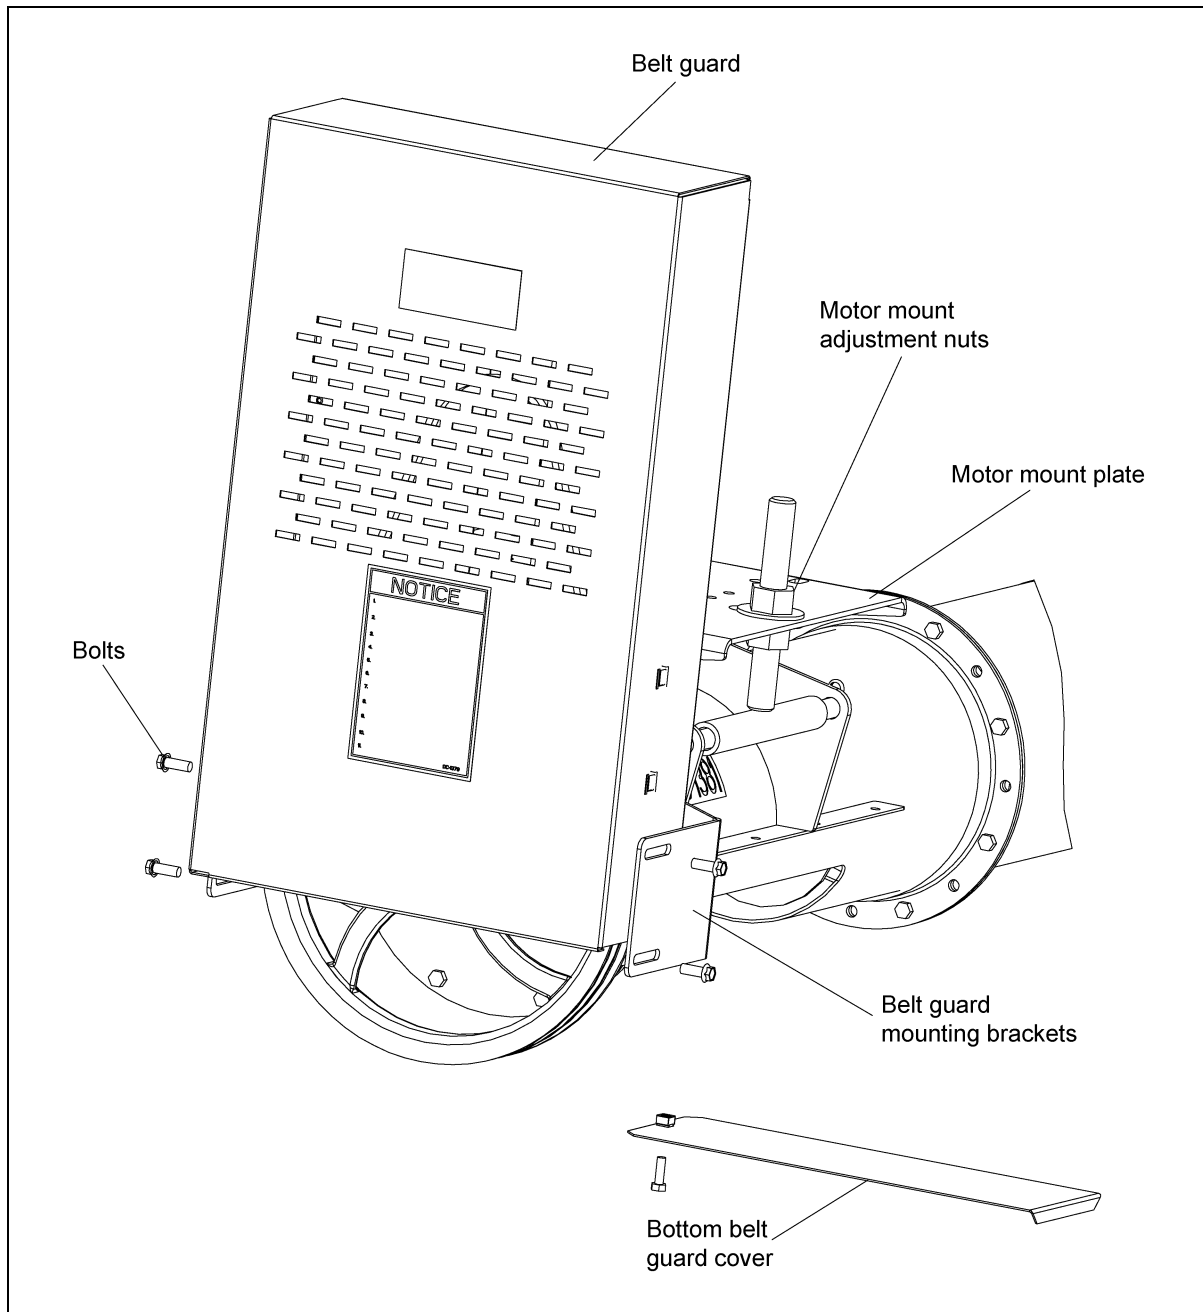

Figure 4Q
- C. Align the motor shaft and the flight drive shaft in the belt guard's slot, making sure that the belt guard DOES NOT contact either pulley, and tighten down the belt guard mounting brackets to the bearing plate. (See Figure 4Q.)